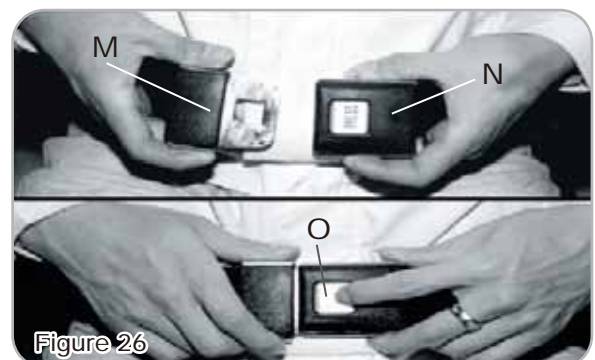

Figure 26
2. Seat Belt can be unfastened by pressing down the black button (O) (Fig. 26)